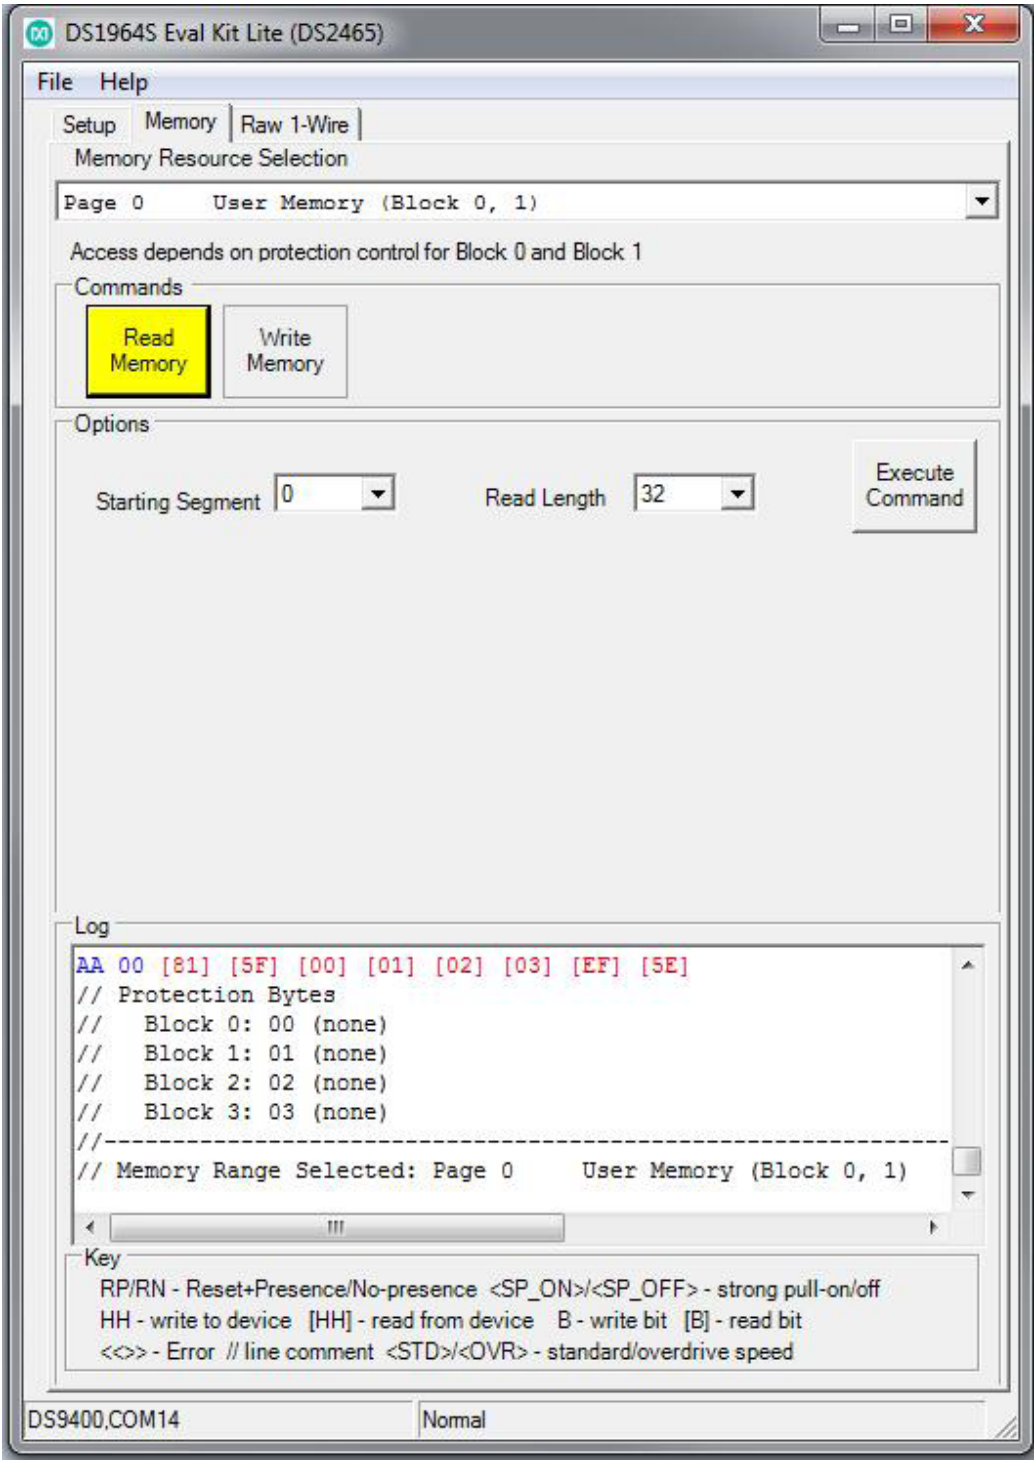

Figure 3. Evaluation Software: Main Window Memory Tab
- a) Once the device has been selected, click on the **Memory** tab (Figure 3). Select the memory range in the **Memory Resource Selection** drop-down list.